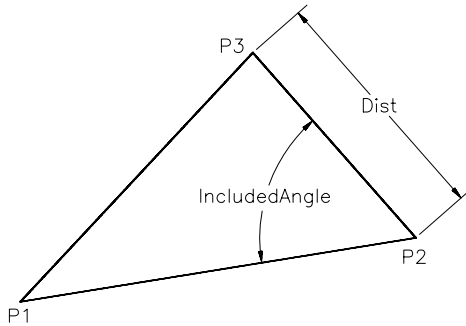
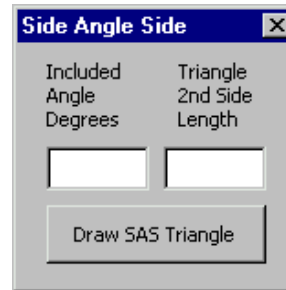

Figure 34-17 Side Angle Side Triangle
Figure 34-18 User Interface Form for Example 3
Write a Visual Basic program that will draw a triangle based on a given line produced from two points P1 and P2, on an included angle and on a length of the second side shown in Figure 34-17. To create the **Text Boxes** on the user interface form, Figure 34-18, use the **TextBox** button. The labels and command button on the form are created by clicking or dragging the respective icons from the toolbox.
3. Create the User form as shown in Figure 34-18 and double-click on the **Draw SAS Triangle**